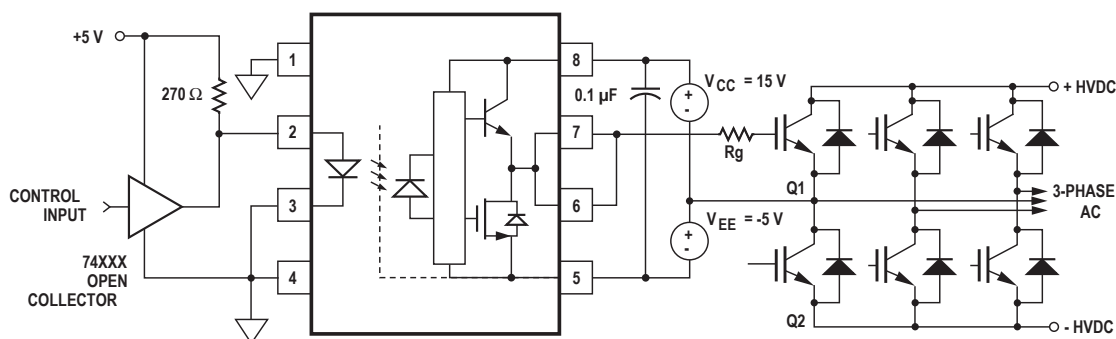

Figure 30. ACPL-3130 Typical Application Circuit with Negative IGBT Gate Drive.
Step 1: Calculate R_g minimum from the I_{OL} peak specification. The IGBT and R_g in Figure 30 can be analyzed as a simple RC circuit with a voltage supplied by the ACPL-3130.
For the circuit in Figure 30 with I_F (worst case) = 16 mA, R_g = 8 Ω , Max Duty Cycle = 80%, Q_g = 500 nC, f = 20 kHz and T_A max = 85°C: